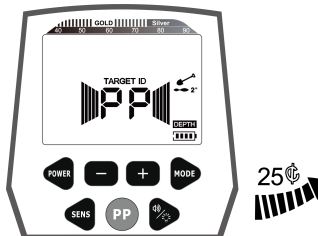

Fig.15
- b. Take a 25¢ silver coin and let it approach the search coil slowly. At the position of about 7" to 8", the first set of signal strength cursors begins to appear, the sound becomes louder and the tone becomes higher. Continue to move the 25¢ silver coin, the signal strength cursor is fast full, the sound is louder, and then the depth cursor indicates the depth down until only one is left, indicating that the metal is gradually approaching the center of the search coil. (See Fig.15)